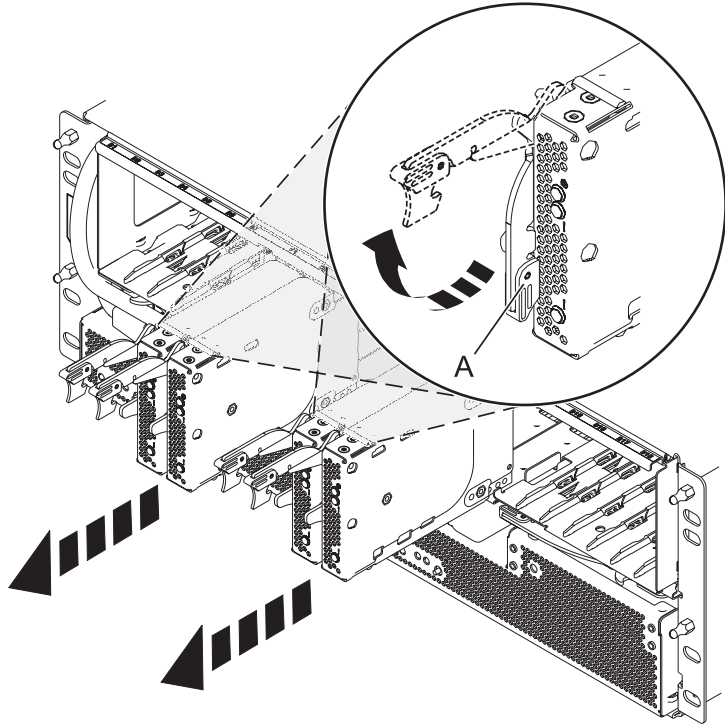

Figure 81. Removing the port card from the backplane
5. Remove the port cards and fillers as shown in Figure 81 on page 117.